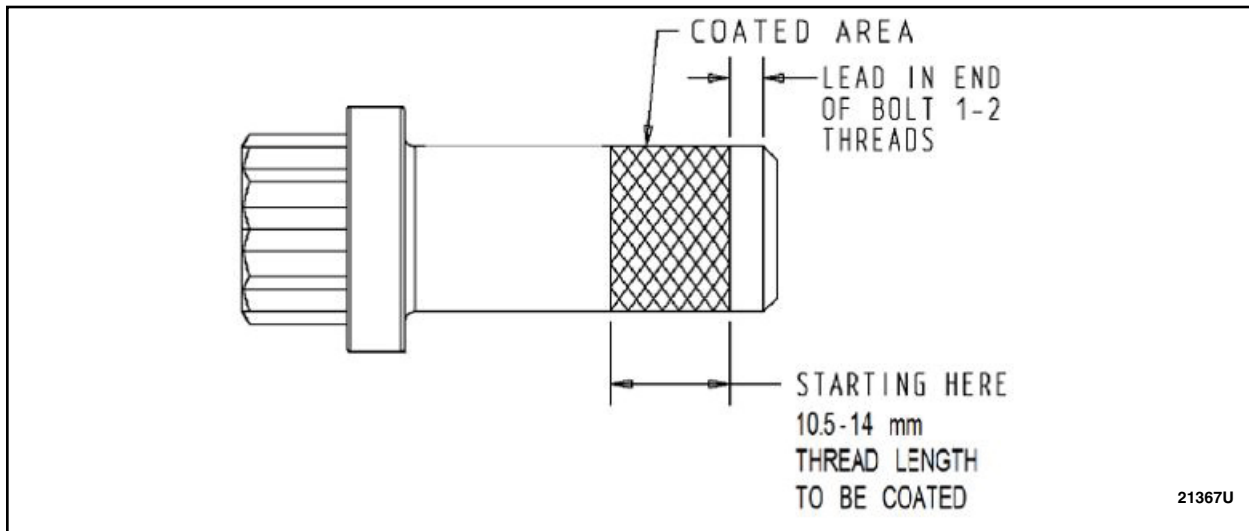

FIGURE 12
20. Inspect the original driveshaft flange to pinion flange bolts for rust in the threads and replace if rusted or damaged. Clean threads of the original driveshaft flange to pinion flange bolts with a wire brush and coat the threads with LOCTITE 243 Blue Medium Strength Threadlocker or equivalent. See Figure 12.